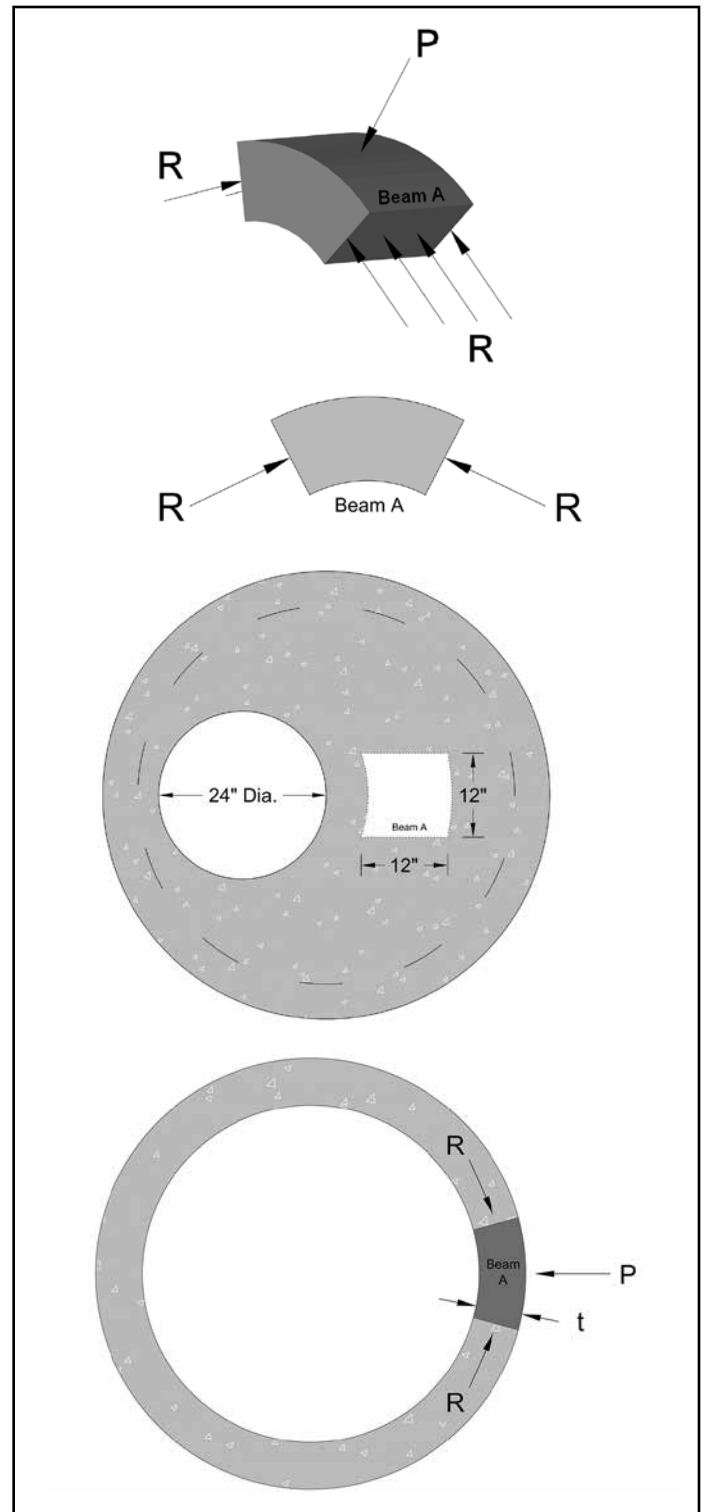

Figure 6
For this type of slope, consider Beam A in Figure 6. In an eccentric cone, this beam is not independent and not supported at each end. Instead, it is supported along the side of the beam for the entire length. And, most importantly, if we look at the cross sections in Figure 6, the beam is in fact curved as an arch where the load is transferred to the continuous supports on each side. Resistance (R) will be large, as it is with a 4-foot diameter riser.
remainder of the cone. In a 1-foot length of a 12-inch wide beam as shown in Figure 6, the compressive strength of 4,000-psi concrete with wall thickness equal to 6 inches results in support for the beam of: